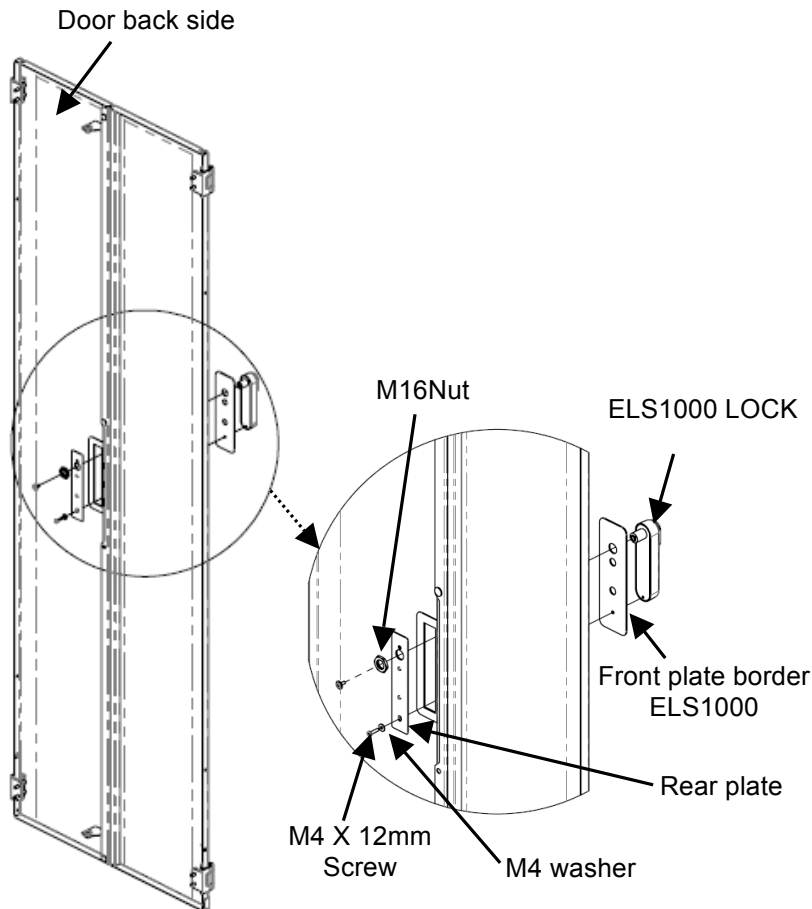

Fig. 2
2. Place the ELS1000 with the Front plate border on the double door with spindle orientation up (Fig. 2)
3. Position the Rear plate from inside the double door over the latch cut-out and fasten to the lock with M4X12mm screw & M4 washer for ELS1000 lock (Fig. 2).
4. Place the M16 Nut over the lock Spindle (Fig. 2).